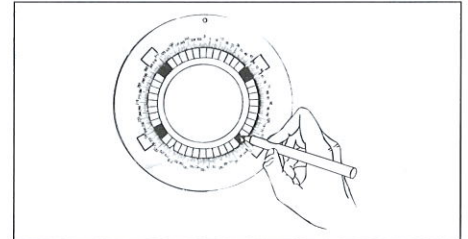

Figure 2
6. Select the mounting bolt pattern from the template (Included with shim) and mark the tabs on the shim which are to be removed to mount the shim (Fig. 2)